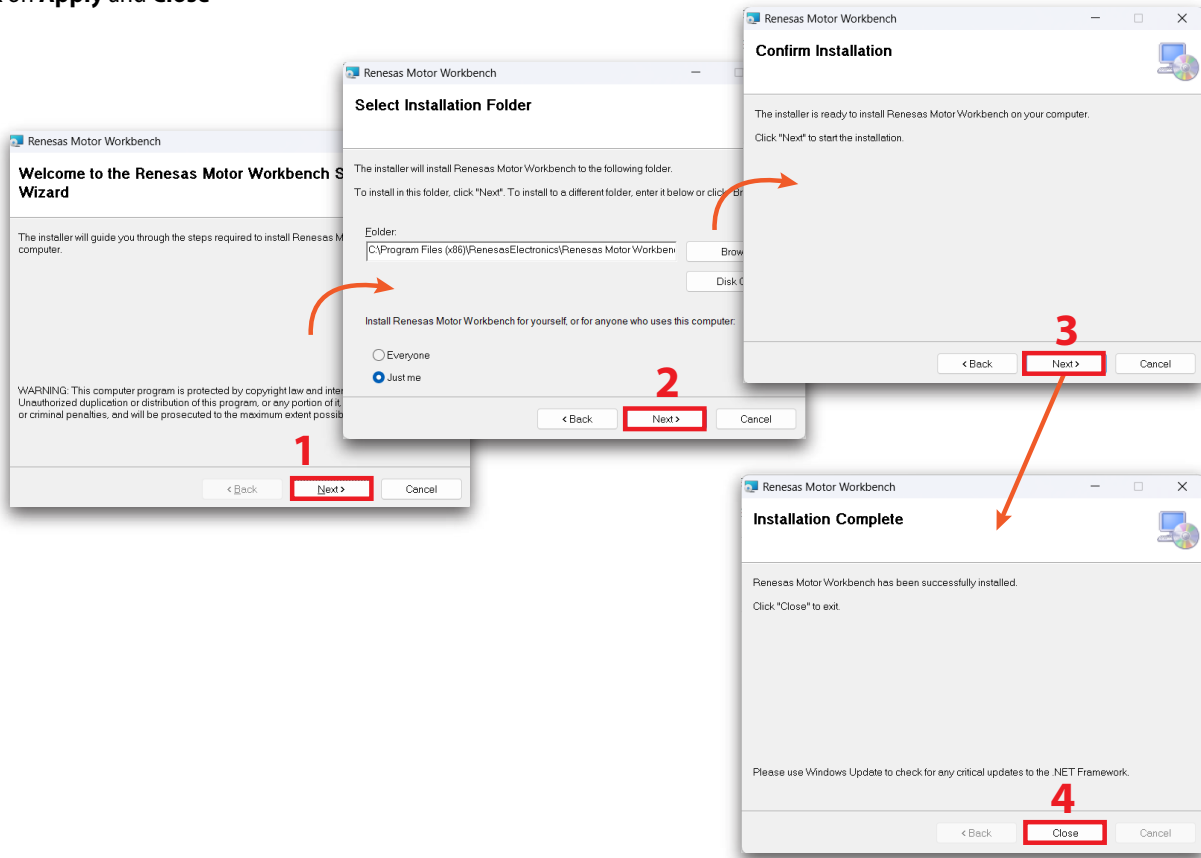

Figure 15: Renesas Motor Workbench setup windows
- 3) Follow the installation steps in figure 15